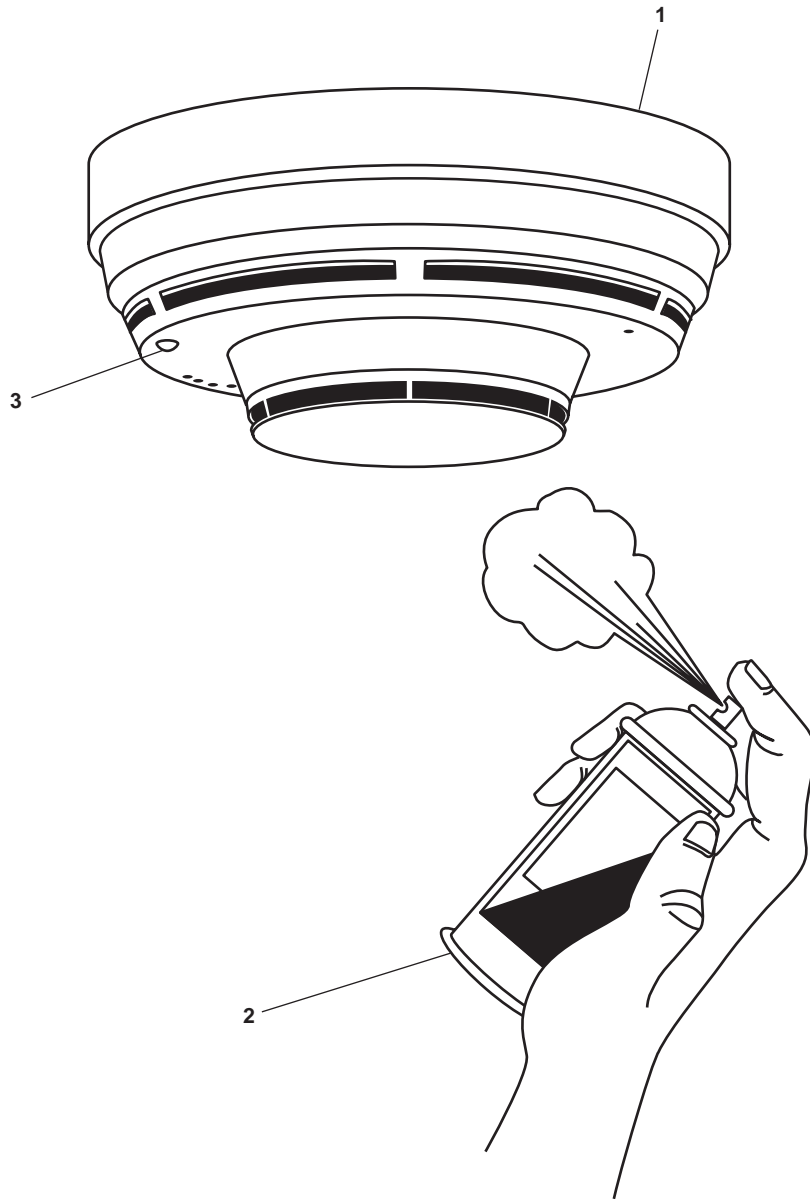

Figure 1. ionization Smoke Detector Testing
1. Activate an ionization smoke detector (figure 1, item 1) by discharging a 1 to 2 second blast of smoke (figure 1, item 2) at one of the smoke detectors.
- a. The ionization smoke detector Light Emitting Diode (LED) (figure 1, item 3) illuminates.